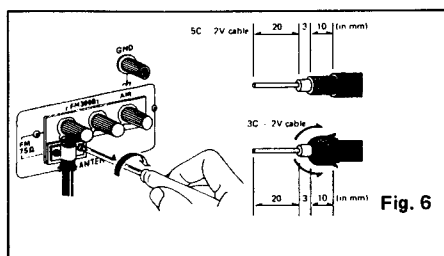

Fig. 6
• 75-ohm antenna with coaxial lead (Fig. 6)